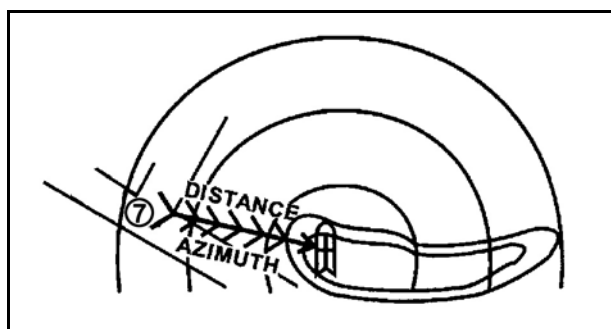

Figure B-10. Gunner's reference point and firing.
h. **Gunner's Reference Point.** The gunner's reference point (GRP) serves as a point of reference when one unit is being replaced by another (Figure B-10). The gunner locates a nearby recognizable terrain feature (such as hilltop, road junction, and so forth) to the right, left, or rear of his firing position to use as his GRP. Label the GRP and draw an arrow between it and the firing position to the terrain feature. The direction of the arrow determines which azimuth to use. **Record the azimuth and distance in the data section.**